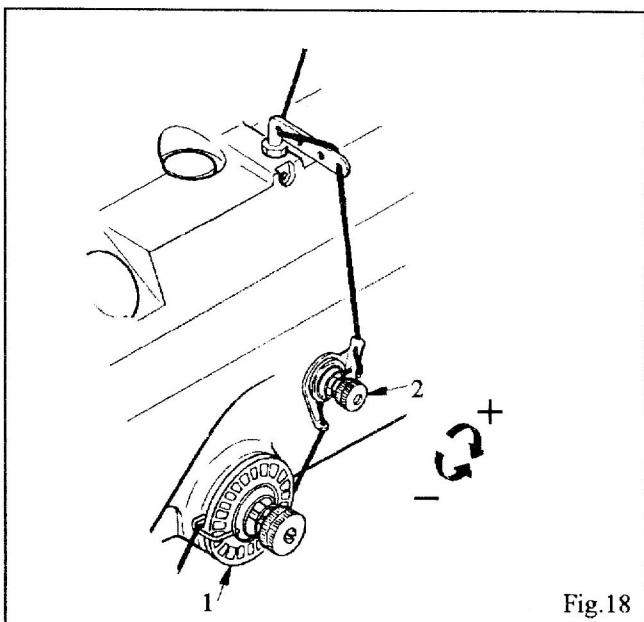

Fig. 18
Pretension thumb nut (2) should be adjusted so that the needle thread will rotate the rotary tension wheel (1) without slippage. (Fig. 18)